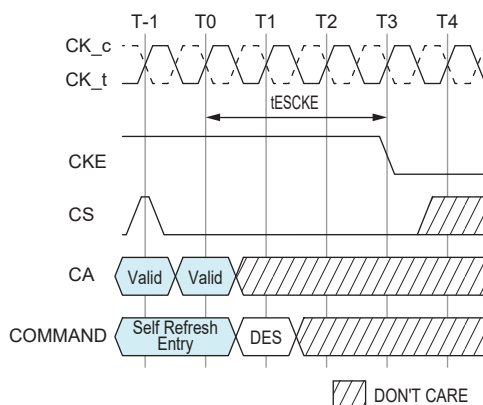

Figure 4.59 — tESCKE Timing
- Delay time has to satisfy both analog time(ns) and clock count(tCK). It means that tESCKE will not expire until CK has toggled through at least 3 full cycles (3 *tCK) and 1.75ns has transpired. The case which 3tCK is applied to is shown in Figure 4.59.